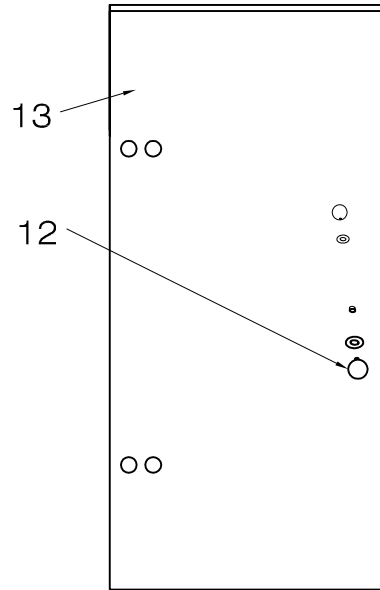

FIG.5
1. Assemble the door handles (#12) to the door (#13). [SEE FIG.5]